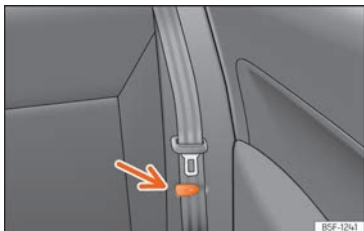

Fig. 118 Rear seat: clip to hold the seatbelt in place.
- Place the side seat belts in the trim clip »» **Fig. 118**.